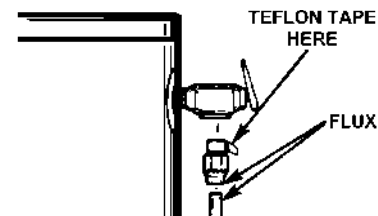

FIGURE 13.
11. Flux the ends of the length of pipe cut for the T & P and the inside of the 3/4" male threaded to sweat connector and 90° sweat elbow. See Figure 13. Then solder this assembly together. Do not screw the connector into the Temperature Pressure Relief Valve before the assembly is soldered together.
12. Using your pipe wrench, screw the assembly into the Temperature-Pressure Relief Valve. See Figure 13.